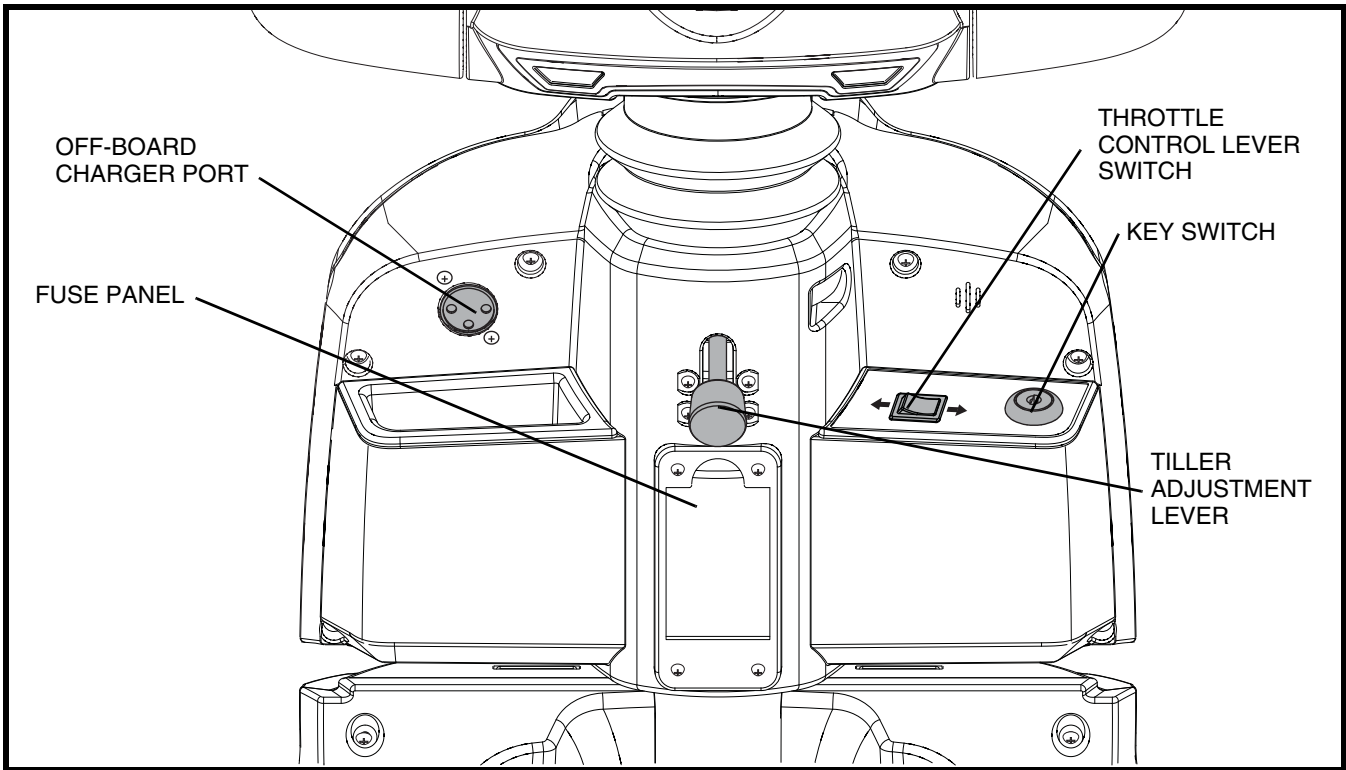

Figure 6. Throttle Control Lever Switch
This switch dictates which throttle control lever (left or right) will function. **See figure 6.**
- Insert the key into the key switch and turn it clockwise to power up (turn on) your scooter. **See figure 6.**
The off-board charger power lead plugs into this port during battery charging. The off-board charger port will be located on the tiller. **See figure 6.**
4. Plug the 3-pin charger power lead into the off-board charger port. **See figures 6 and 13.**